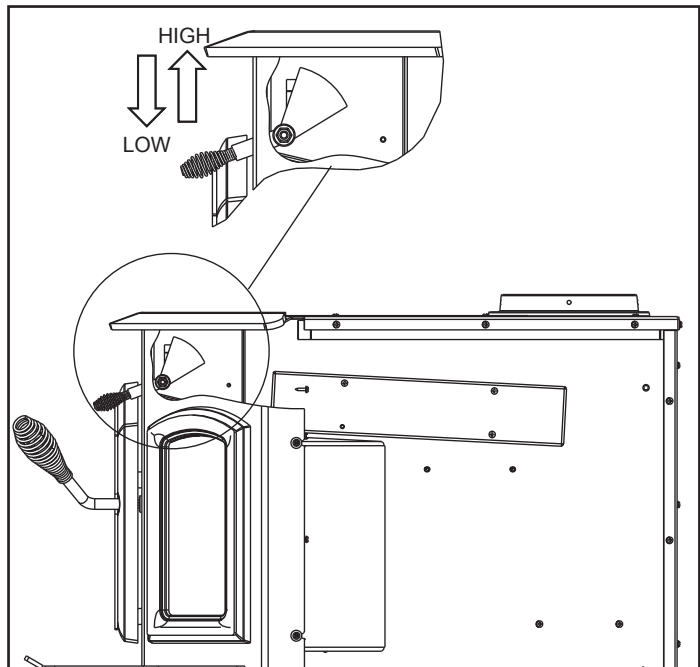

Figure 11.1 Activating Timer
- When the control is raised all the way up it is on the High setting and when pushed all the down it is on the Low setting. **Figure 11.1.**
2. Follow these burn rate instructions below and refer to **Figure 11.1**